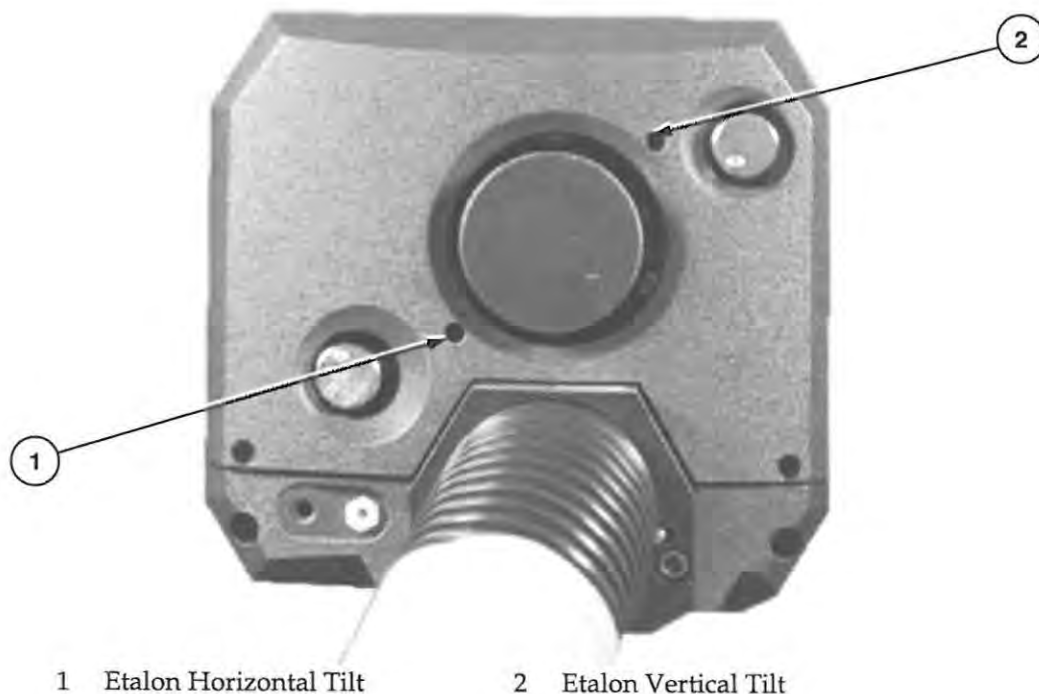

Figure 8-7. Etalon Tilt Adjustment
25. Make sure that PowerTrack is OFF. Using a 1/8 in. Allen wrench, adjust the vertical and horizontal etalon tuning screws (Figure 8-7) so that the reflected spots on the card superimpose and power is maximized. When the reflected spots are coincident, the intensity may get noticeably brighter (flashes) and the output power should be near the value recorded in step 10.